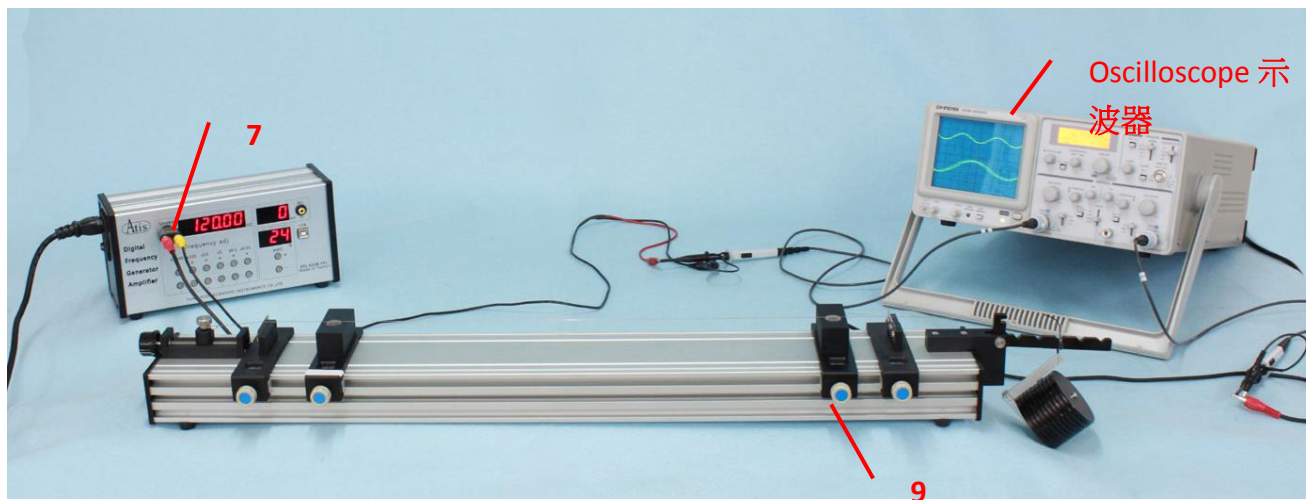

Figure 1-2
5. Or put the **detector coil** under the wire. Connect the coil to the oscilloscope. Observe the increasing signal, as shown in **Figure 1-2**.
Note: The frequency of **driver coil** may not be the oscillation frequency of wire. Use the **power plug adapter** to share **the signal of digital frequency generator amplifier** with the oscilloscope. We can then observe that the frequency may be an integral multiple of the wire's oscillation frequency, as shown in **Figure 1-2**.